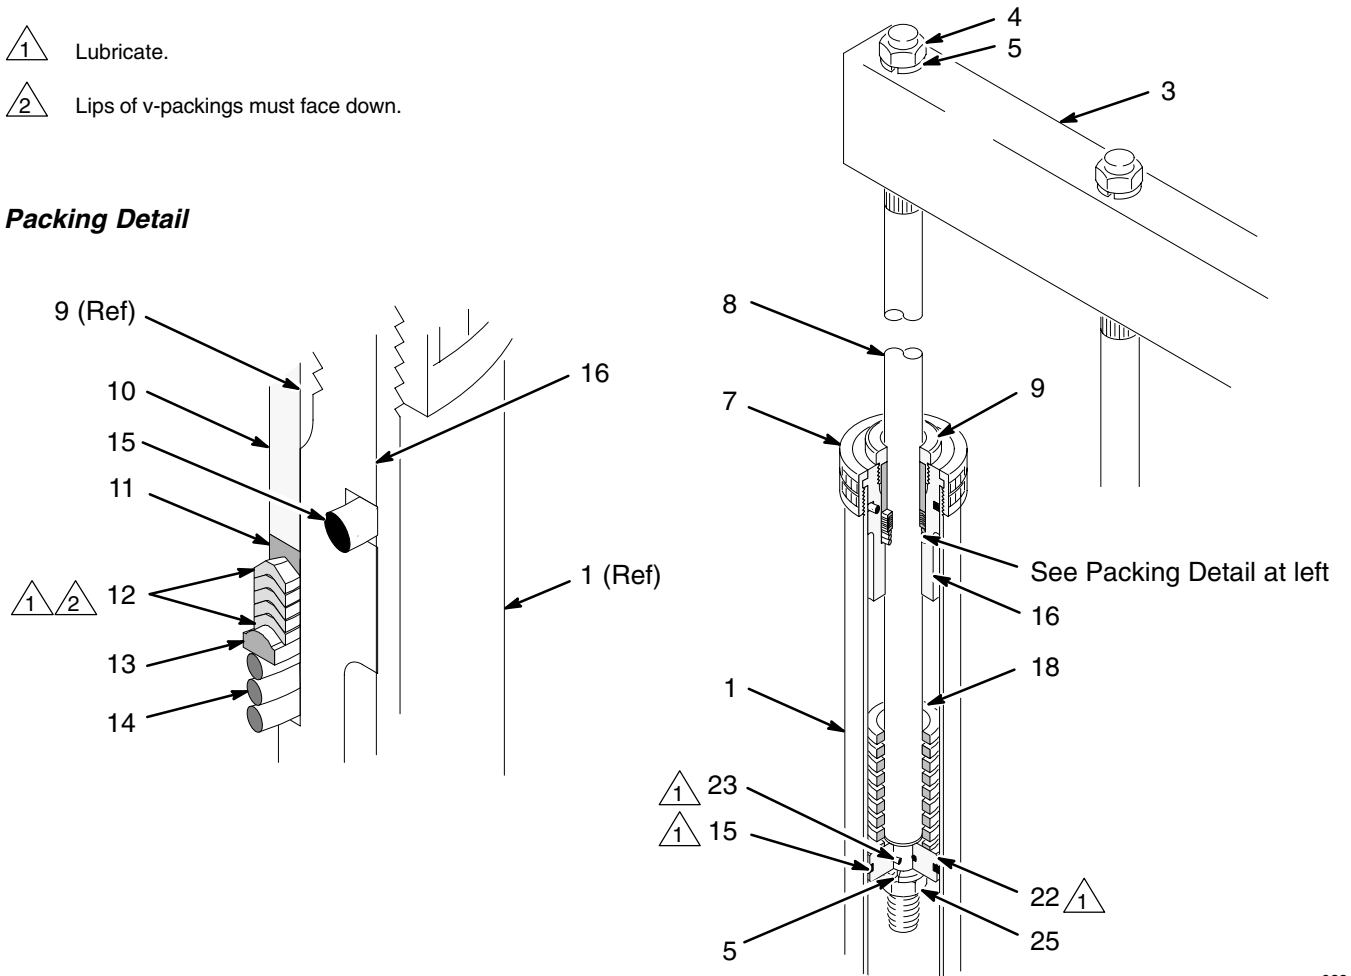

Fig. 3
1. If air leaks around the piston rod packing nut (9), tighten the nut. If the air leak continues, **relieve the pressure** and continue as follows.
2. Remove the four nuts (4) and lockwashers (5) holding the support beam (3) to the rod (8), and remove the support beam. Screw the packing nut (9) out of the housing (16) and slide it up off the rod (8). See Fig. 3.
3. Remove the bearing (10), female gland (11), packings (12), male gland (13) and spring (14) and slide them up off the rod (8).
5. Slide the spring (14) and male gland (13) onto the rod (8). Lubricate the packings (12) and slide them onto the rod one at a time, with the lips facing down. Slide the female gland (11) onto the rod and push all of the packings into the housing (16). Slide the bearing (10) onto the rod.
6. Slide the packing nut (9) onto the rod (8) and screw it into the housing (16). Tighten just snug; do not overtighten or the packings may be damaged.
7. Reinstall the support beam (3) on the rods (8), using the nuts (4) and lockwashers (5).
2. Remove the support beam (3) as explained under **Piston Rod Packing Service**.
3. Remove the cylinder cap (7) and slide it up off the piston rod (8). Loosen the packing nut (9) and carefully slide the packing nut, bearing (10), and housing assembly (16) up off the rod. See Fig. 3.
4. Carefully pull the piston rod (8) **straight** up out of the cylinder (1). If the rod is cocked to one side, the piston or inside surface of the cylinder could be damaged.
5. Carefully lay the piston and rod down so the rod will not be bent. Remove the piston retainer nut (25), washer (5), piston (22), outer piston seal (15), inner piston seal (23) and spring (18).
6. Install the piston seals (23 and 15) on the piston (22) and lubricate the piston and seals. Reinstall the spring (18), piston (22), washer (5) and nut (25) on the piston rod (8).
7. Carefully insert the piston into the cylinder (1) and push the rod (8) **straight** down into the cylinder. Align the pin in the housing (16) with the slot in the cylinder, and slide the housing, bearing (10), and packing nut (9) down onto the piston rod (8). Tighten the packing nut just snug; do not overtighten or the packings may be damaged.
8. Reinstall the cylinder cap (7) and beam (3).